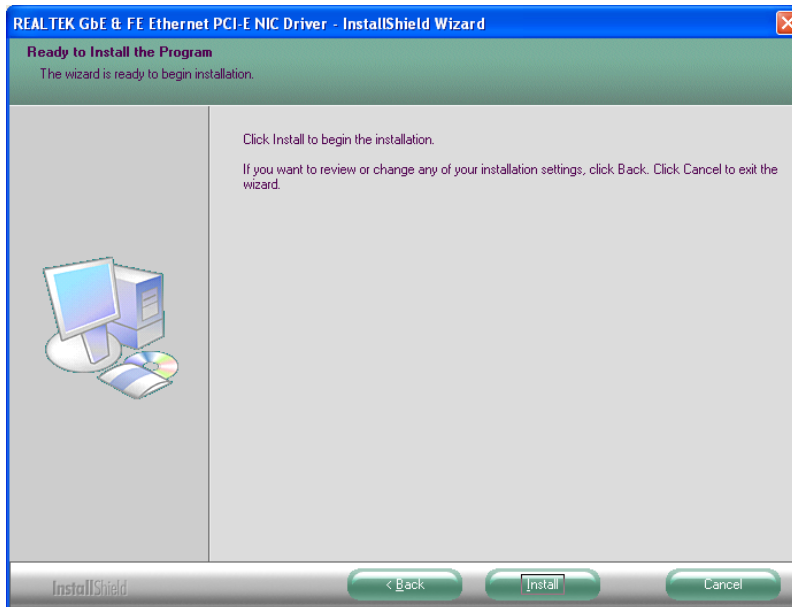

Figure 6-15: LAN Driver Welcome Screen
Step 7: The **Ready to Install** screen in **Figure 6-15** appears.